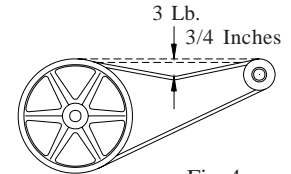

Fig. 4
• **Check belt tension.** A 3 lb. force should deflect the belt 3/4 inches (see Fig. 4). Readjust belt if needed.